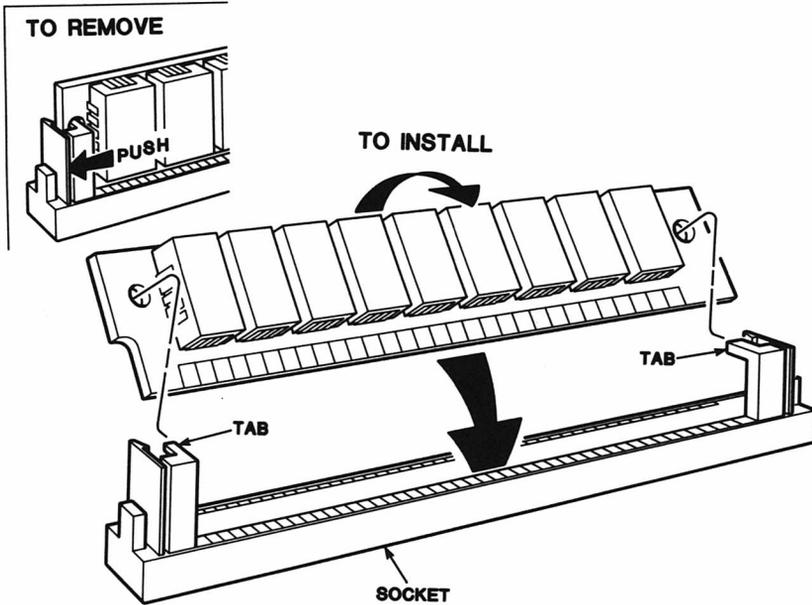

Figure 2-3. Installing and Removing SIMMs
3. Refer to Figure 2-3 and read the following procedures for installing and removing SIMMs, then continue on to step 4:
4. To expand the memory to 3M, install a ZCA-2300-MG memory kit (consisting of two 1-megabyte SIMMs) in sockets C1 and C2. Be certain to position the SIMMs so that the flat side faces left and the side containing the memory devices faces the disk drive housing, as shown in Figure 2-3.
To expand the memory to 6M, remove the four factory-installed 256K SIMMs from sockets A1 through B2. Install six 1M SIMMs in sockets A1 through C2. Again, be certain to position the SIMMs so that the flat side faces left and the side containing the memory devices faces the disk drive housing, as shown in Figure 2-3. Finally, move the jumper at J516 on the main board from pins 2 and 3 to pins 1 and 2.